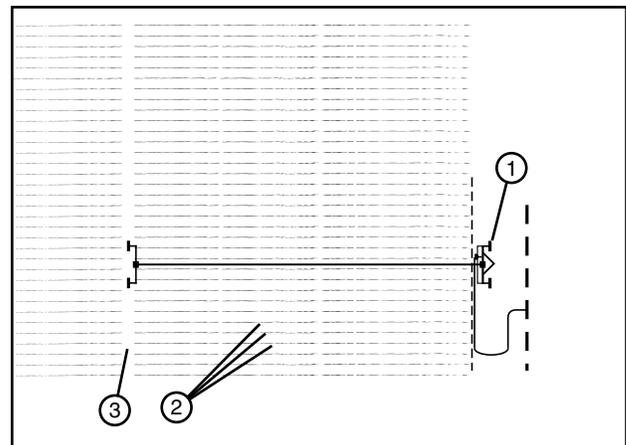

Figure 35-2 Perpendicular Travel
Use the following method to establish perpendicular wheel tracks. See Figure 35-2.
1. Plant the crop perpendicular to the linear system. See Figure 35-2.